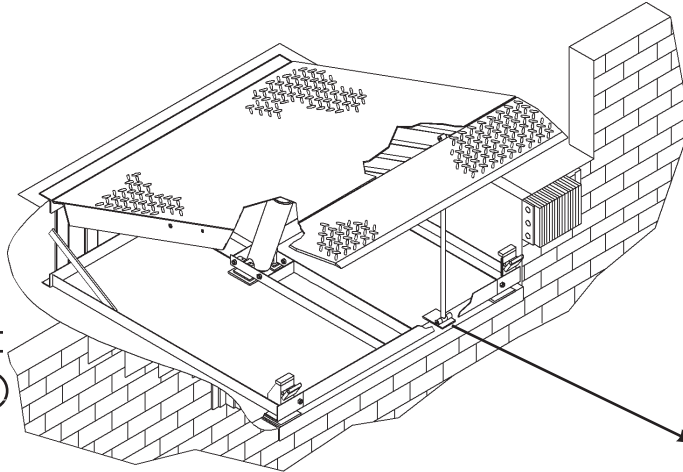

Figure 25
Whenever maintenance is to be performed under the dock leveler platform, support the platform with maintenance prop (C). Position the maintenance prop behind front header plate (D) while staying clear of the lip. The lip will fold down after the platform has rested on the maintenance prop. Lock the maintenance prop in the service (upright) position using an OSHA approved lockout device\* (B) and tag out device\* (A). See Figures 25 and 26.